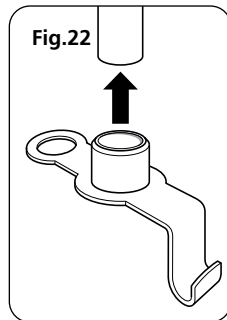

Fig. 22
**D** Slide the shower gel holder onto the rail (**fig. 22**) below the holder assembly. Place the rail onto the installed lower bracket. Replace the